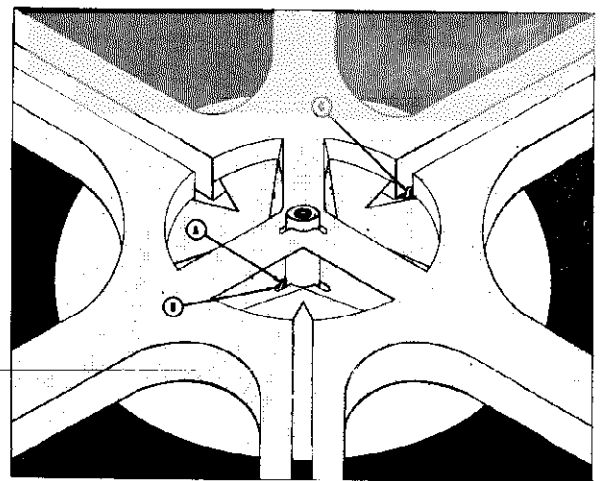

Fig. 30—Reel Keying of Turntable
Be certain that the key pin (A) of each turntable fits into the key slot (B) of each reel. (See Fig. 30). Correct positioning allows proper action of each automatic trip lever (C).